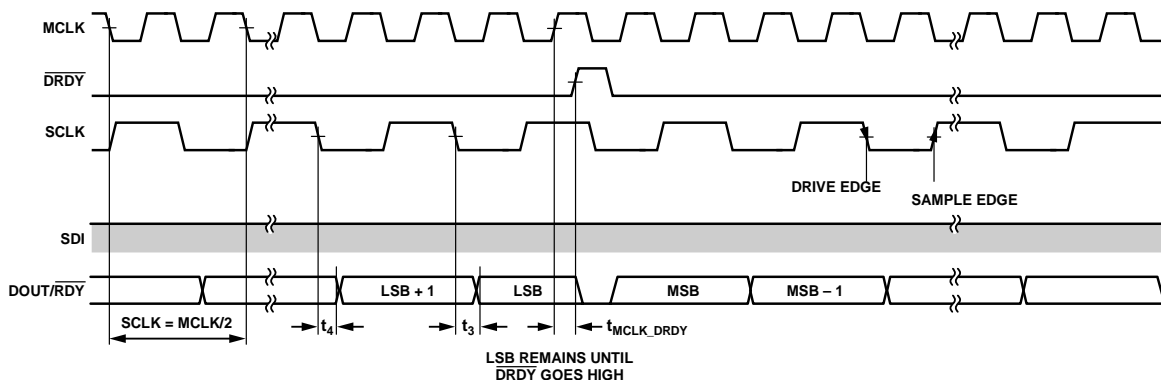

Figure 98. Recommended Interface for Reading Conversions, SPI Control, Continuous Readback Mode
The AD7768-1 interface is flexible to allow the many modes of operation and for data output formats to work across different DSPs and microcontroller units (MCUs). To achieve maximum performance, the recommended interface configuration for reading conversion results is shown in Figure 98. This recommended implementation uses a synchronous SCLK to MCLK relationship.
Figure 98 shows how the recommended interface operates. The data read back spans the entire length of the DRDY period and the LSB remains until DRDY goes high for the next conversion.
2. Generate SCLK based on the DRDY or RDY timing. SCLK is high when the DRDY signal goes high and transitions on the MCLK falling edges (see Figure 98) to ensure that the LSB can be read correctly as the DOUT/RDY output is reset on the DRDY rising edge. However, SCLK rising occurs before this transition.
Because the full ODR period is for clocking data, the RDY signal no longer flags after each LSB outputs. This signal only flags if the AD7768-1 is in continuous readback mode, or if the AD7768-1 does not count 32 SCLKs within $1 \times t_{MCLK}$ before DRDY, as is shown in Figure 98.